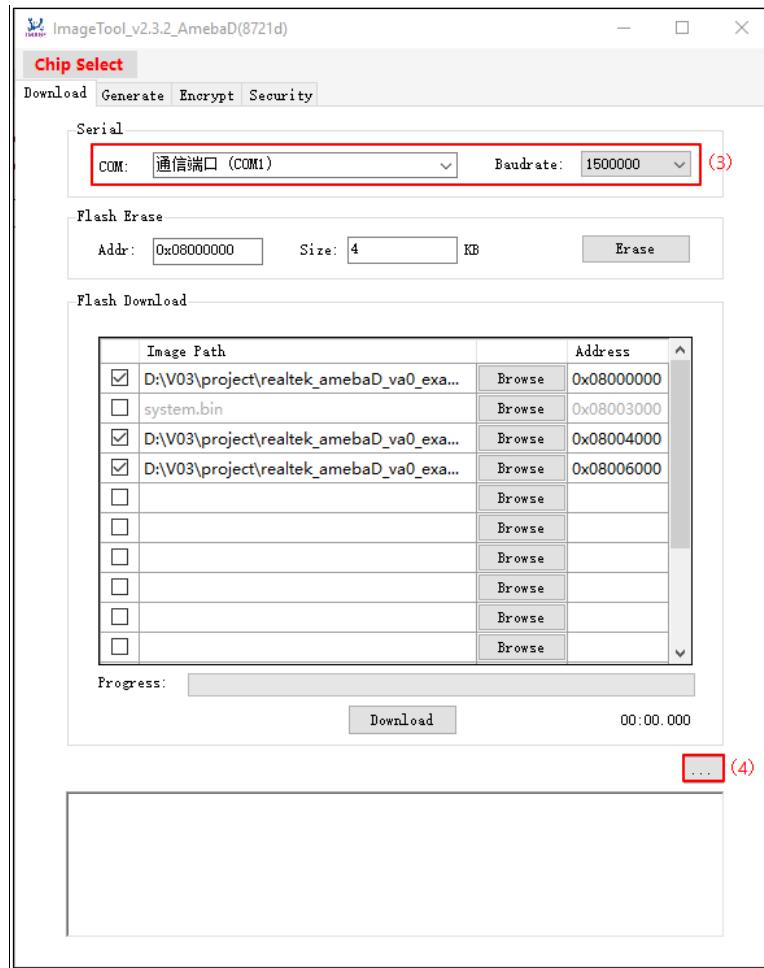
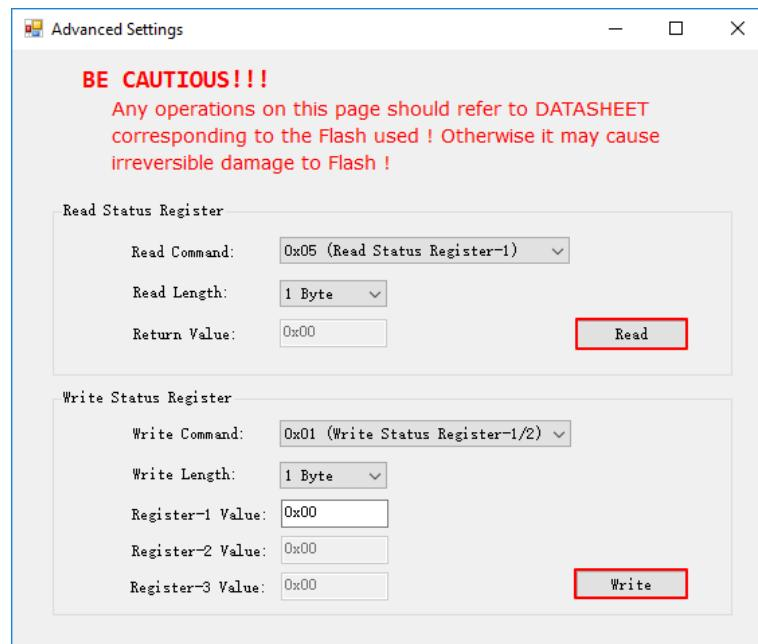

Fig8-5 AdvancedSetting
Fig8-6 Flash status operation
- (1) Check the Read/Write Status Register Command and Sequence after ~~the~~ Flash datasheet. Notice that different Flash would have different sequence.
- (2) Get Ameba into UART_DOWNLOAD mode introduced in sect~~8.1~~ 8.1
- (3) Select the corresponding serial port and baud rate.
- (4) Click Advanced Setting button in Fig8-5, and the Advanced Setting window shown in Fig8-6 popups.